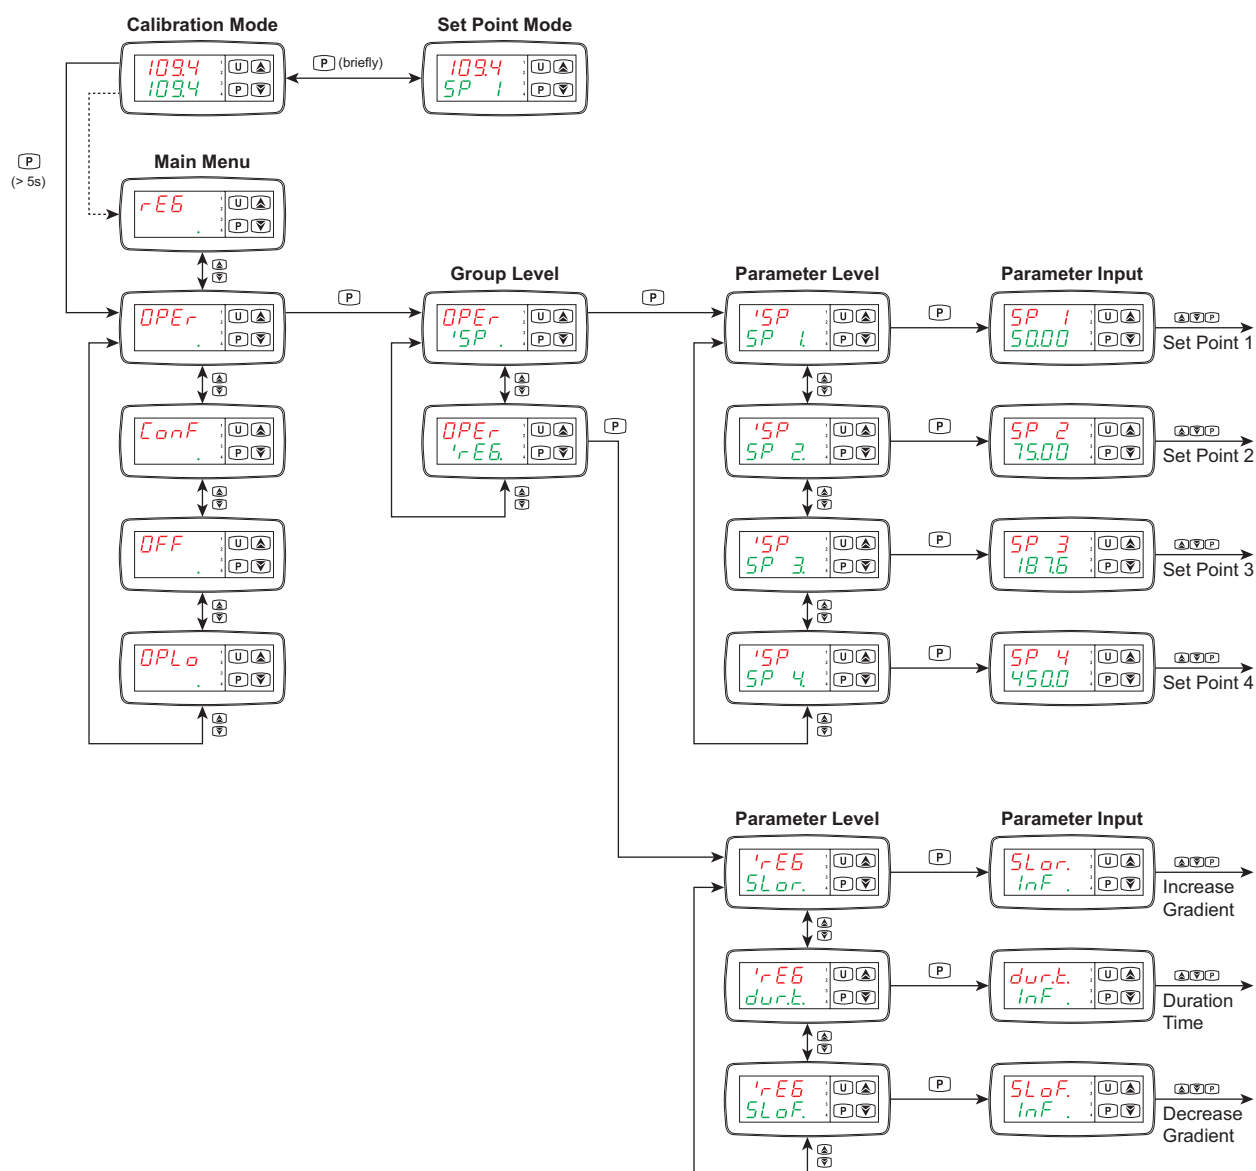

Figure 19: Main Menu Overview
2. Use the \blacktriangledown and \blacktriangle keys to select the desired main menu, see Figure 19.